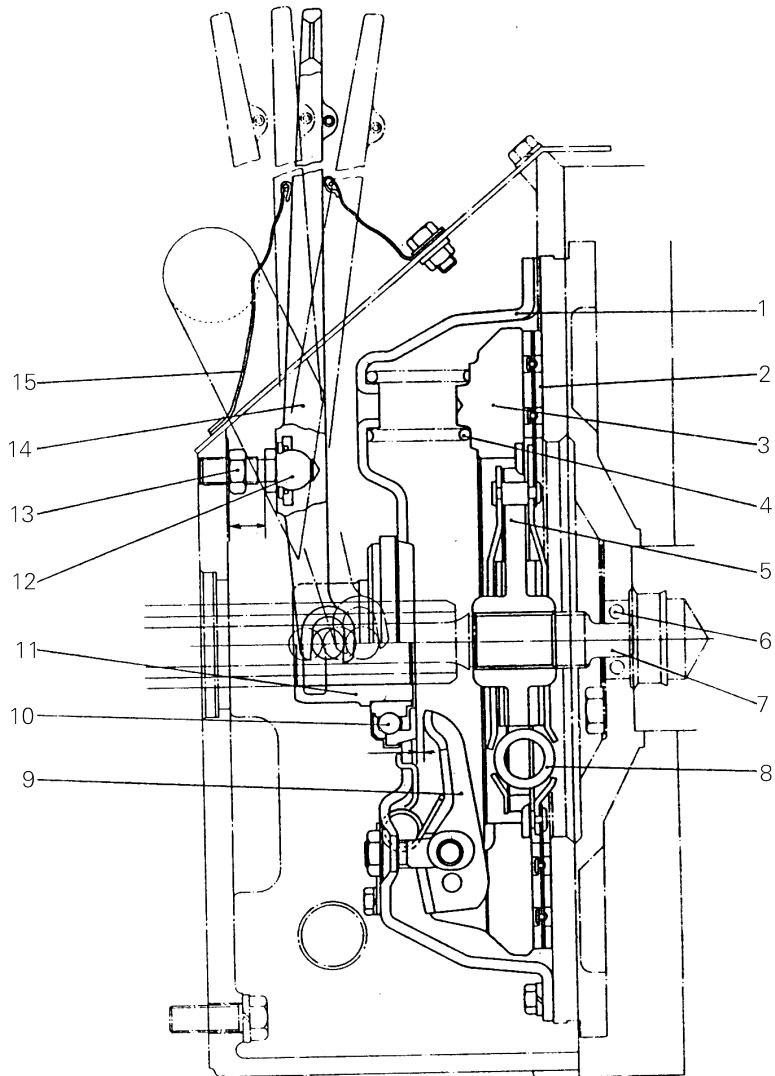
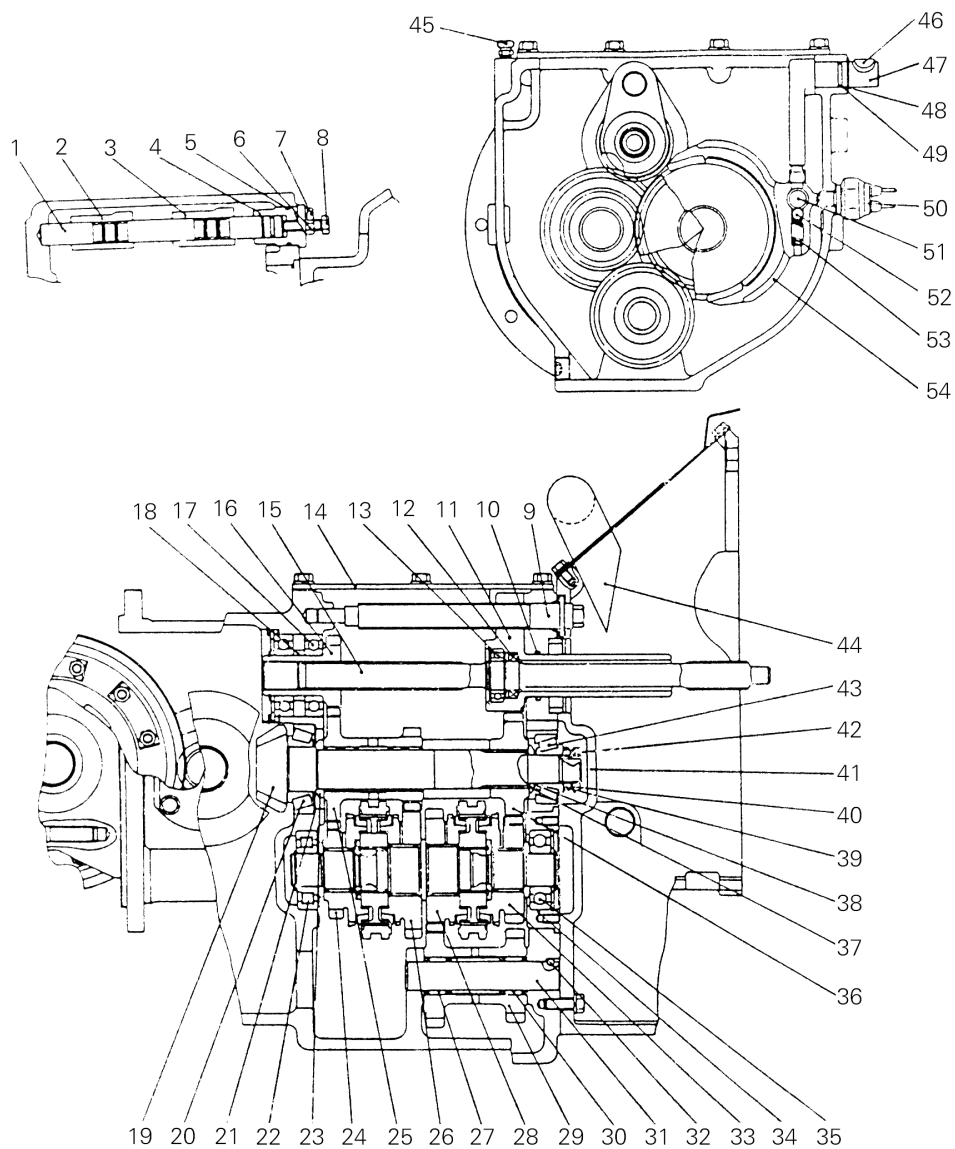
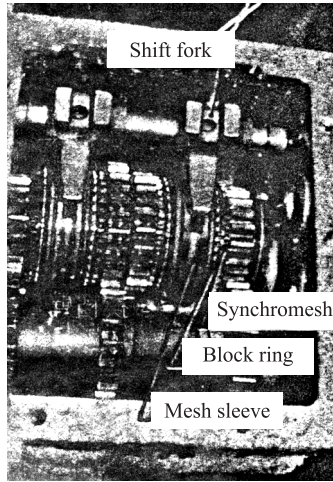

Fig.2-1 Clutch
Fig. 3-1 Drive unit
Fig.3-2 Gearshifting mechanism
(1) Press the clutch pedal and place three spacers between the pressure plate case and release lever to cause the friction piece apart.
(2) Turn counter clockwise the slide lead screw in the upper of the transmission to let the driving shaft go into the transmission (See Fig.3-1).
(3) Remove six mounting bolts on the pressure plate case to cause the flywheel apart and remove the old friction piece right away.
(4) When a new friction piece is installed, notice the hub (See part 5 in Fig.2-1) with the longer spline boss being toward the transmission.
(5) Turn the slide lead screw clockwise and pull out the driving shaft step by step and let its spline match with the hub spline.
The drive unit of clutch type truck is a one-body construction consisting of the transmission, reduction gear and differential (Fig.3-1). The transmission is provided with a synchromesh mechanism that synchronizes the rotation of gears which are about to be meshed, ensuring smooth gear shifting. The transmission of this type avoids clashing gears and reduces noise arising when shifting, especially shifting from forward to reverse or vice versa.
### 3.2.5 Rotating rod and shift forks (See Fig.3-1 and Fig.3-2)